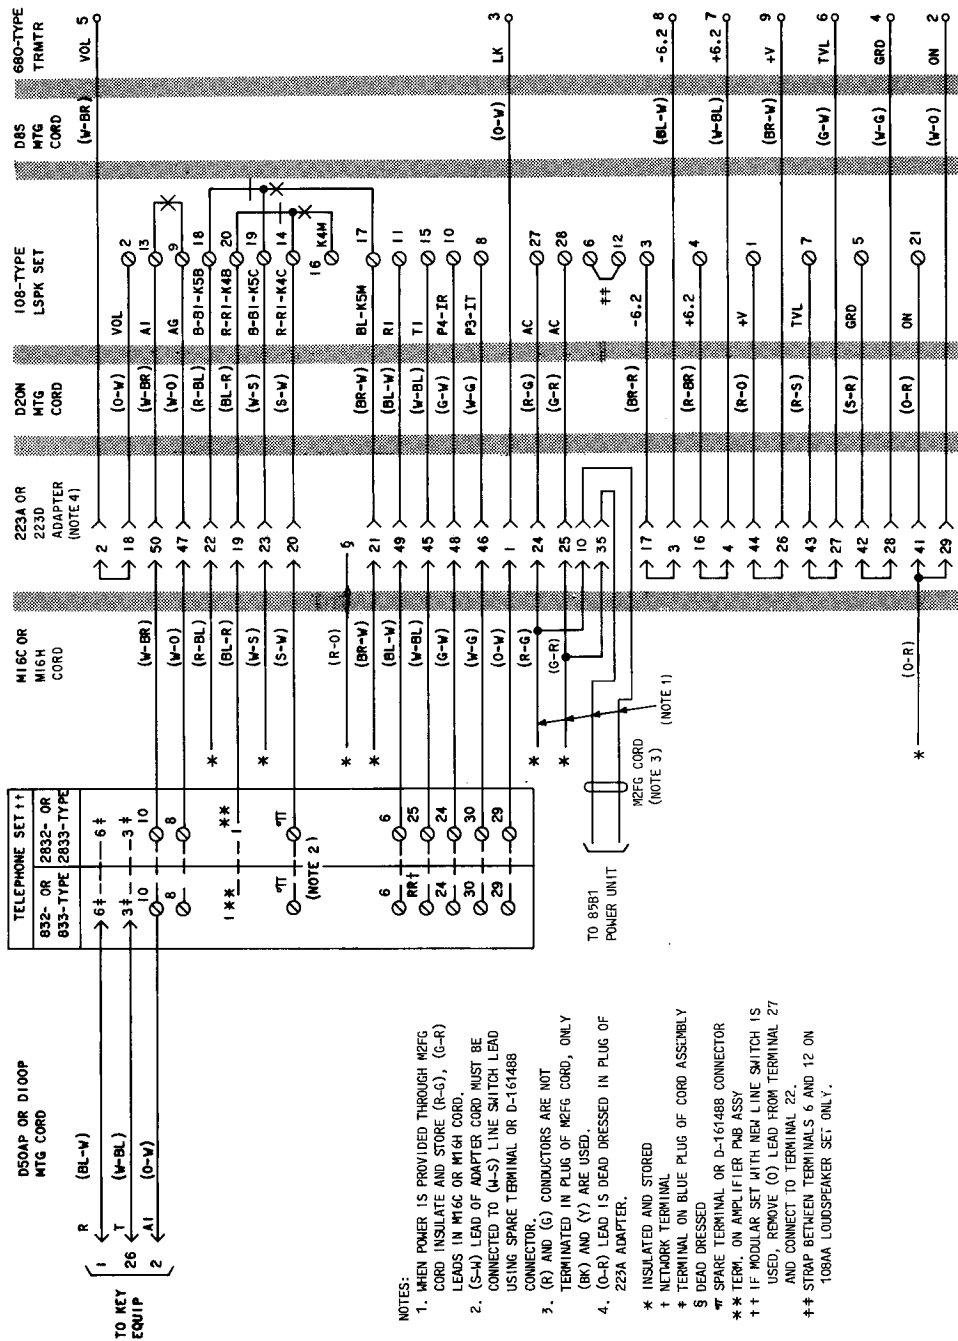

Fig. 2—4A Speakerphone System Arrangement, Connections to 10- or 20-Button Telephone Set
- Revise Fig. 2 and 3
1.03 Rotary telephone sets equipped with an 8RA dial must be equipped with an 8CA dial when used with 4A speakerphone. The two (Y) leads of second set of off-normal contacts on 8CA dial shall connect to same set terminals as P3 and P4 speakerphone leads.